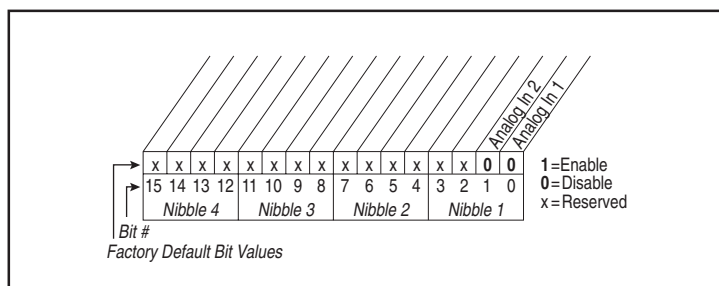

Figure 11.36 – Anlg In Sqr Root (321)
**Range:** See figure 11.36
**Default:** See figure 11.36